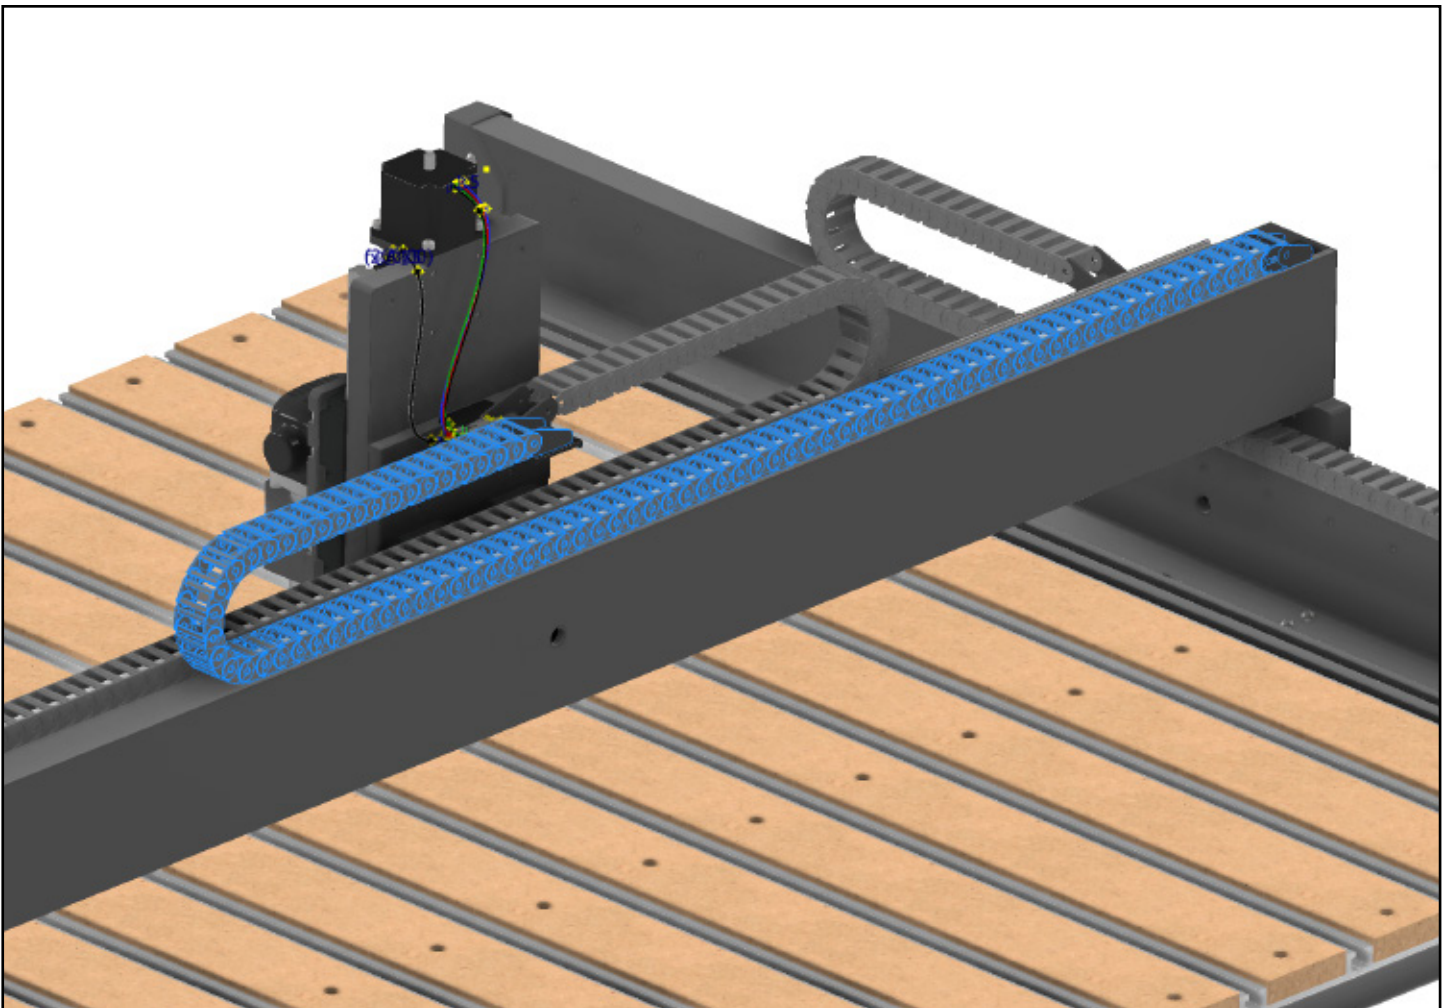

Figure 5-2
3. Lift the X-Axis (longer) drag chain over the HDZ and set it on top of the gantry. See **Fig. 5-2**.